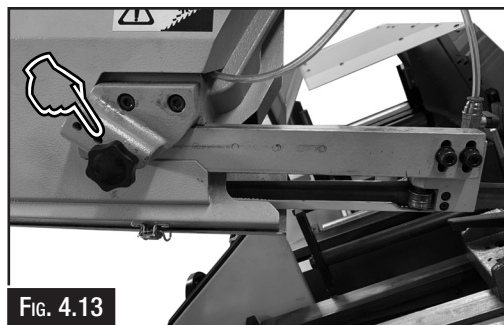

FIG. 4.13
9. **Left/Right Feeding Vise Limit Switch:** The feeding vise has two limit switches ( Fig. 4.13 ) which when touched will give the final position for left & right.
Used to support the blade and should be moved as close as possible to the cutting area (Fig. 4.13) To move the bar, release the locking knob and slide the bar to the position, then lock the screw.